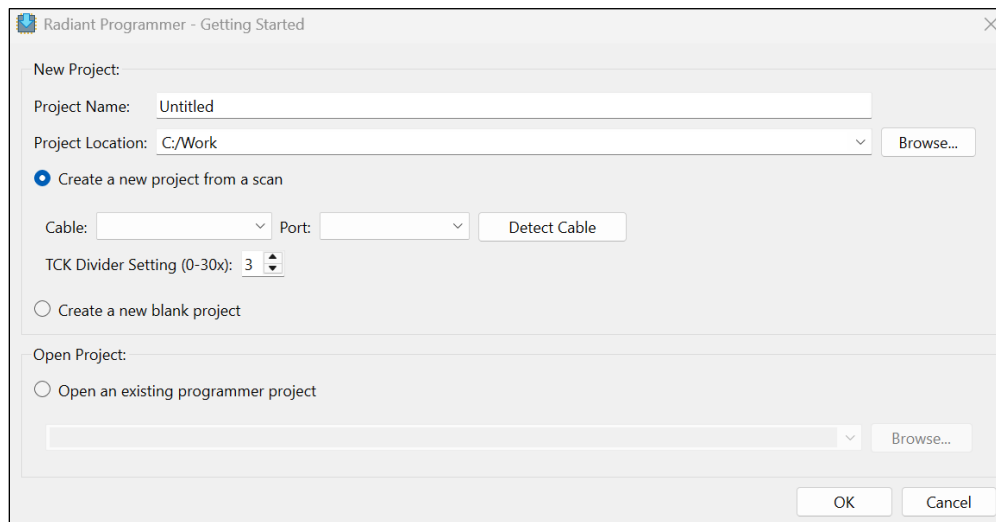

Figure 6.6. Creating a New Project from a Scan
1. Create a new project using the Lattice Radiant Programmer software. In the **Getting Started** dialog box, input the **Project Name** and **Location**, as shown in Figure 6.6.